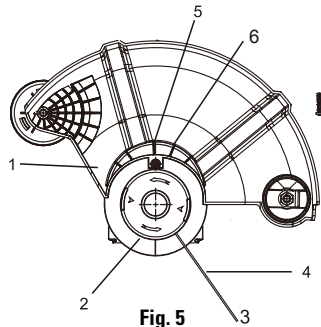

Fig. 5
1. Place the tool on its back on a clean work surface (Fig. 5).
2. Slide the guard in the direction as indicated by the arrow (2).
3. Install 1 screw (4) into the matching holes (5) in the motor housing.